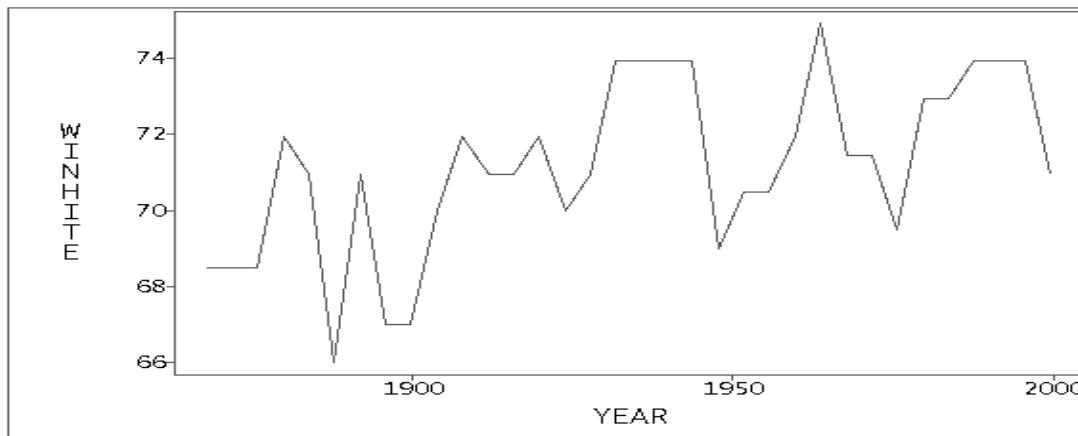

Figure 2: *Time series plot of election winner's heights.*
- o Time Series Plot (or Line Plot): shows pattern of variation evolving over time. Figure 2